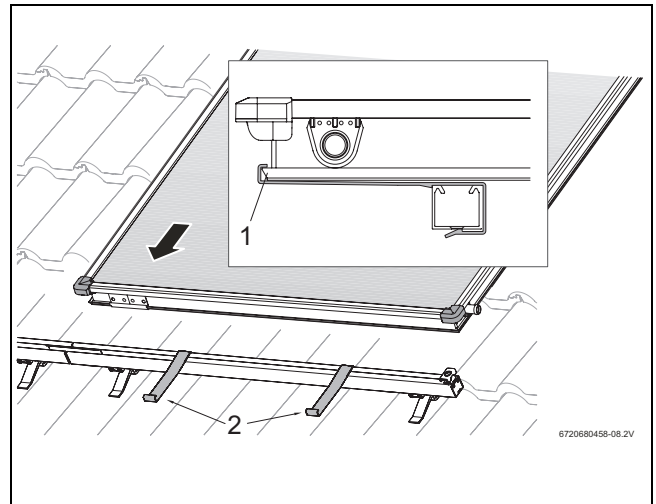

Fig. 42 Laying the first collector on the profile rails
- Place the first collector on the profile rails and let it slide into the anti-slip brackets (Fig. 42, [2]). Position the lower collector edge (Fig. 42, [1]) in the aperture of the anti-slip bracket.